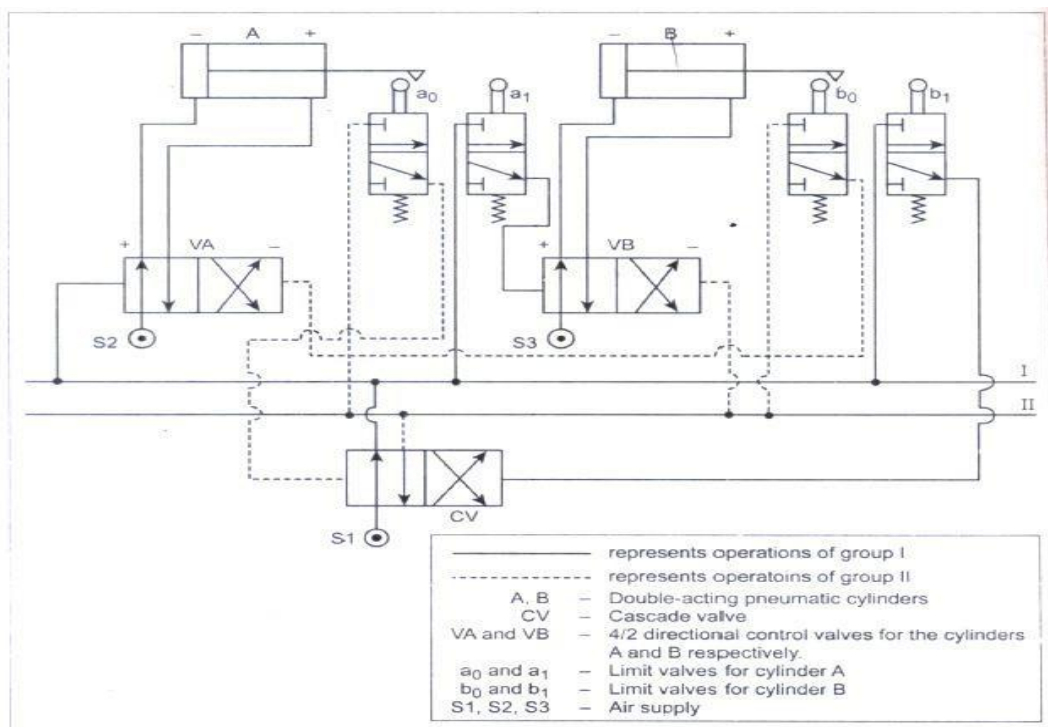

Fig. 13.23. Cascade circuit for A+B+B- A- sequence
Step 5 : The cascade circuit and their valve connections for the sequence $A^+ B^+ B^- A^-$ is drawn as shown in Fig.13.23.